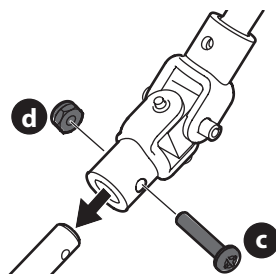

Figure 12
3. Remove the screw (c) and hex lock nut (d) from the universal joint (Figure 12).
4. Install the universal joint on the end of the chute rod (Figure 12).
5. Secure the universal joint with the hex lock nut (b) and screw (a) removed in Step 3 (Figure 12).